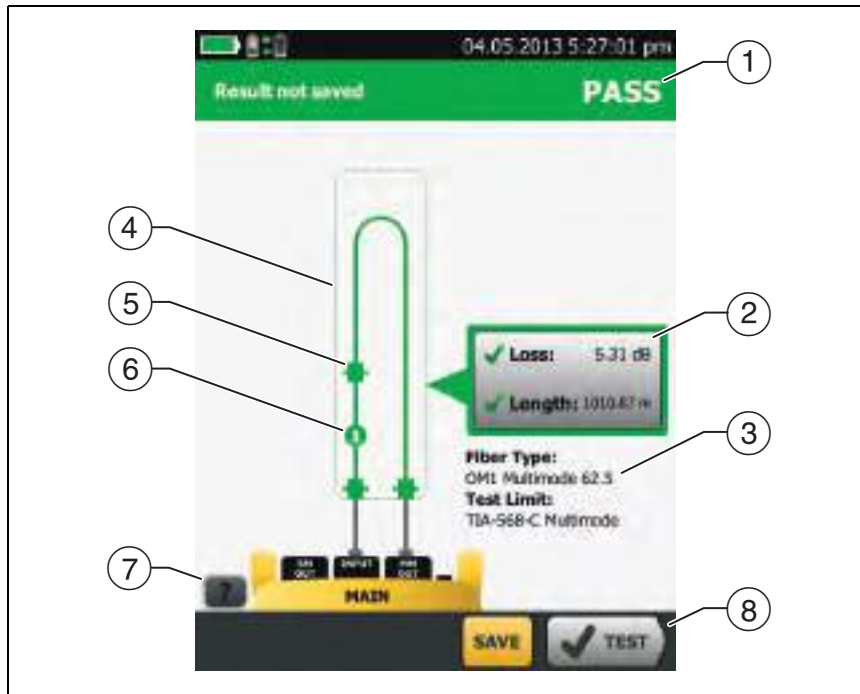

Figure 65. Result for Loopback Mode
Figure 65 shows an example of Autotest results for Loopback mode.
- ③ The settings the tester used for the test.
- ④ The dashed lines are around the connectors and fiber that are included in the loss and length results. Gray connectors and fibers are not included because you used them to set the reference.
- ⑤ Connector icons show the number you entered for the **TOTAL CONNECTIONS** setting on the **No. of Connectors/Splices** screen (Figure 58 on page 154). For Figure 65, the **TOTAL CONNECTIONS** setting is 3.
- ⑥ The round icon shows the number of splices entered for the **SPLICES** setting on the **No. of Connectors/Splices** screen.
- ⑦ To see help for the screen, tap .
- ⑧ When more than one button shows at the bottom of the screen, the tester highlights one in yellow to recommend which one to tap. See “Buttons to Do Tests and Save Results” on page 22.